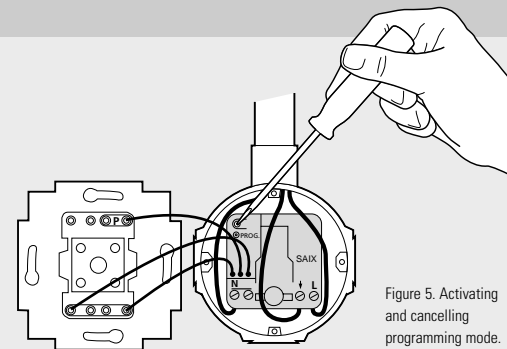

Figure 5. Activating and cancelling programming mode.
- Press the program button for at least three seconds, see Figure 5, so that the red LED lights up when the button is released.